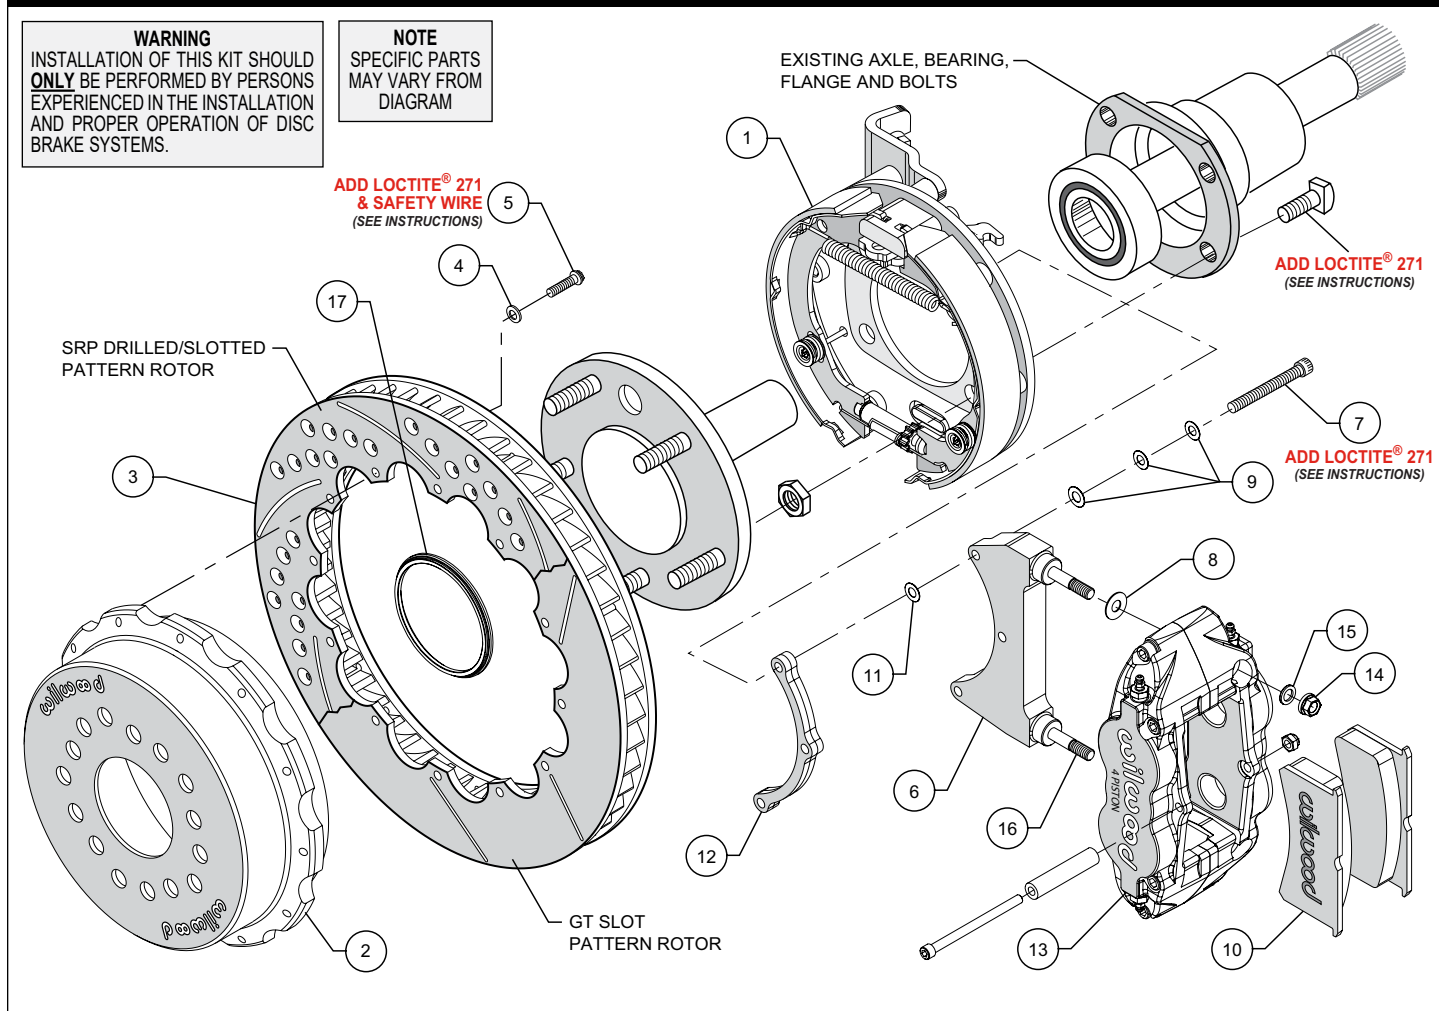

Figure 1. Typical Installation Configuration
- Slide the rotor registration adapter (17) onto the axle register on the axle flange with the smaller O.D. facing toward the rotor/hat (2). Align the correct hole pattern in the hat with the stud pattern on the axle flange. **NOTE:** *Some OEM and aftermarket axles come with stud sizes larger than 0.50" diameter.* Verify stud size and have a qualified machine shop drill the hats to the correct size, if necessary. Slide the hat/rotor assembly (2 and 3) over the wheel studs covering the bracket kit assembly (1) and against the axle flange face. Check to be sure the hat seats squarely against the hub. Install a couple of lug nuts (finger tighten) to keep the rotor/hat assembly in place while continuing with the installation.
- **NOTE:** *Please reference the caution statement at the beginning of the assembly instructions.* The caliper mounting bracket assembly (6) should be installed first with clean, dry threads on the mounting bolts (7). Install the bracket from the rear side of the bracket kit assembly (1) by sliding bolt (7) through three flat washers (9), bracket (6), shim washer (11) and finally through the spacer (12), see Figure 1. **NOTE:** *End of bolt should not exceed inside face of insert. The bracket must tighten squarely against the back side of the bracket kit assembly (1).* Inspect for interference from casting irregularities, machining ridges, burrs, etc. Use one thin shim (11) between the bracket (6) and spacer (12) during initial trial fitting.
- Install one shim (8) over each pre-installed stud (16) on the radial mount bracket (6). Slide the caliper (13) in place over the studs and rotor, then install the washer (15) and lock nut (14) to hold the caliper in place. The caliper bleed screws should be pointing up. Snug the lock nuts (14) and check that the rotor (3) is centered in the caliper (13). Add or subtract .015" shims (11) as necessary between the caliper mounting bracket (6) and the spacer (12) to center the caliper (13).
- Remove the caliper center bridge pad retainer bolt, nut, and tube from the caliper. Slide the brake pads (10) into place. They should install easily without interference. Check that the outside radius of the brake pad is aligned with the outside diameter radius of the rotor face. Add or subtract shims (8) between the caliper (13) and mount bracket (6) to gain the proper alignment. Reinstall the center bridge pad retainer tube, bolt, and locknut. The locknut should be snug without play in the bolt or tube. Be cautious not to over tighten.
- Adjust the parking brake shoes outward (using a drum shoe adjustment tool available at your local auto parts store) while spinning the hat (2) until a slight drag is felt against the hat/drum. Remove the lug nuts that were holding the hat/rotor in place. Install the wheel and lug nuts. Check to see that the wheel rotates freely without interference.
- Once all clearances have been checked, remove the wheel, caliper, hat/rotor from the bracket kit assembly (1). Secure the caliper mounting bracket (6) to the bracket kit assembly (1) using red *Loctite*® 271. Torque bolts (7) to 180 in-lb. Reinstall the hat/rotor assembly and again use lug nuts to hold it in place. Reinstall the caliper and torque the caliper nuts (14) to 30 ft-lb.
- **NOTE:** *Clevis and cable kits which attach to the parking brake assembly are not included in the Wilwood parking brake kit.* Wilwood offers a generic style parking brake cable kit, P/N 330-9371 for this application which can be ordered separately from your local Wilwood dealer or by calling Wilwood customer service at (805) 388-1188.